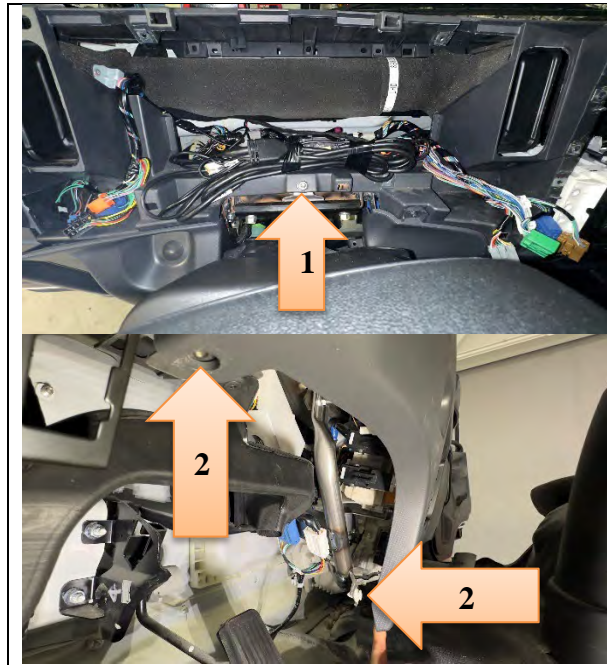

Figure 33
32. Install on the IP the one (1) nut removed in Step 12 and the two (2) clips removed in Step 18. (See Figure 33.) **Torque the nut to: 4.0 N•m (35 lb•in)**